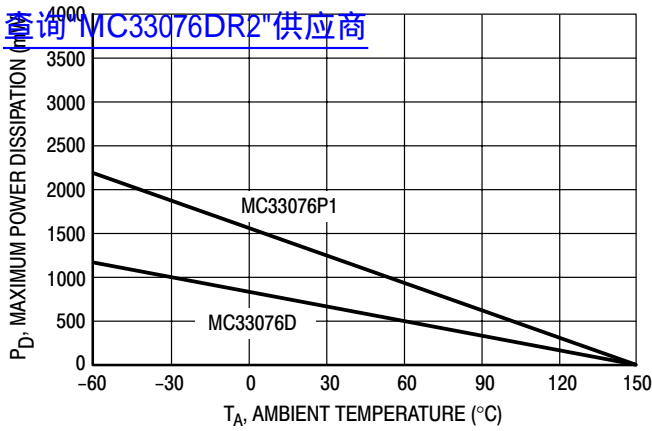

Figure 2. Maximum Power Dissipation versus Temperature
2. **Power dissipation must be considered to ensure maximum junction temperature ( $T_J$ ) is not exceeded** (see power dissipation performance characteristic, Figure 2). See applications section for further information.